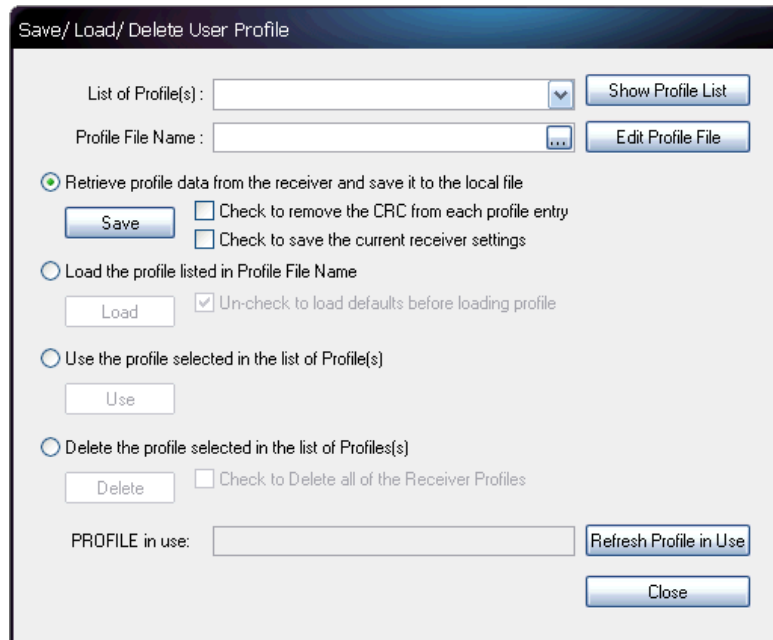

Figure 97: Profile in Use
Refer to Figure 97 for the steps below:
- Click the *OK* button. The profile name is displayed in the *PROFILE in use* text box at the bottom of the *Save/Load/Delete User Profile* dialog box (see Figure 97).
- Click the OK button. The profile name is displayed in the *PROFILE in use* field at the bottom of the *Save/Load/Delete User Profile* dialog box (see Figure 97).